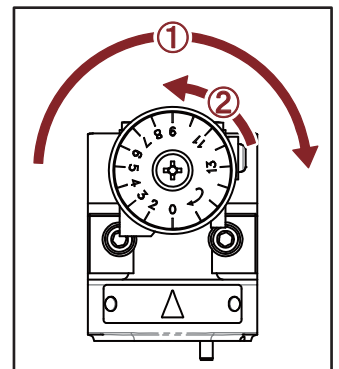
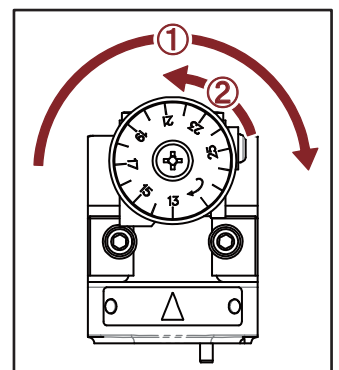

Fig. 7-1
Fig. 7-2
- Right positioning shelf: $\Phi 2.0$ mm - $\Phi 13.0$ mm (Fig. 7-1)
- ① Turn it by clockwise to the end.
- ② Turn it by counterclockwise at "0".
- Left positioning shelf: $\Phi 13.1$ mm - $\Phi 20.0$ mm (Fig. 7-2)
- ② Turn it by counterclockwise at "13".